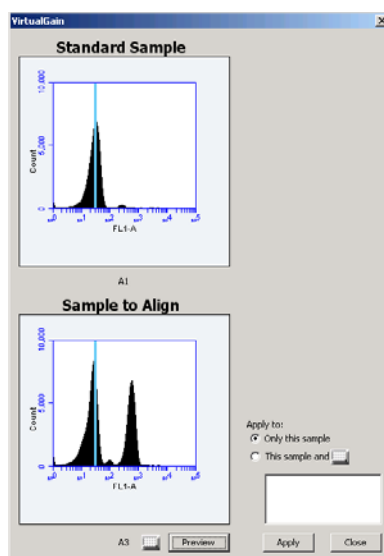

Figure 6-7 Step 14, To align other samples exactly as the first aligned sample.
14. To align other samples exactly as the first aligned sample, select “This sample and”. A sample grid will open to allow selection of additional samples. If the other samples need a different amount of VirtualGain, VirtualGain must be set individually for each one (Figure 6-7).